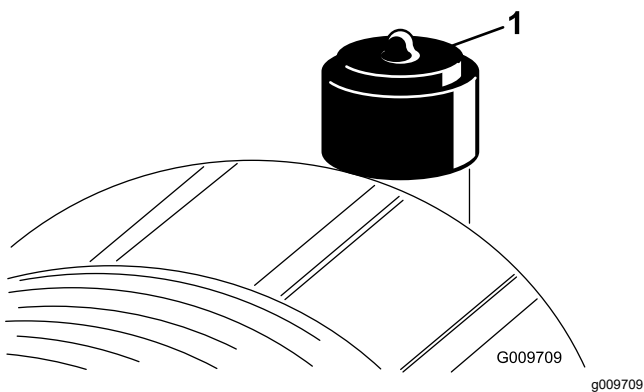

Figure 91
Service the air-cleaner filter only when the service indicator (Figure 91) requires it. Changing the air filter before it is necessary only increases the chance of dirt entering the engine when you remove the filter.
2. Reset the indicator (Figure 91) if it shows red.